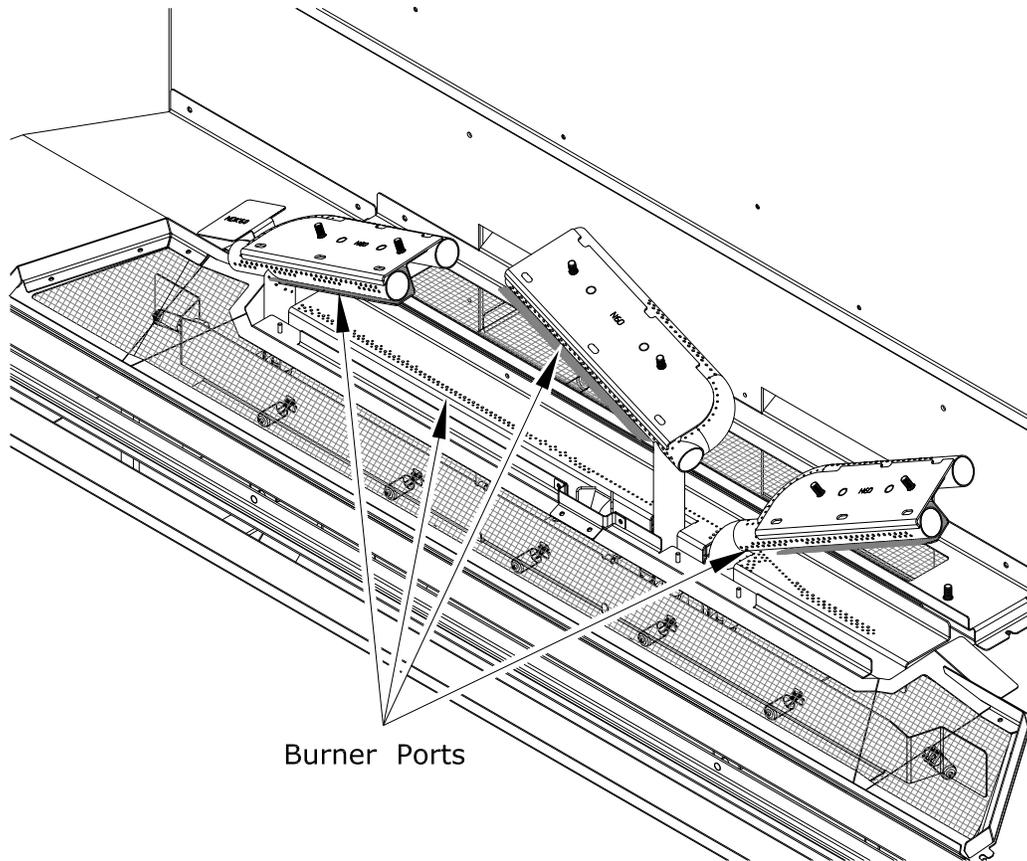

Figure 12.1 - Burner System
- Inspect and ensure the lighting of the main burner occurs within (4) seconds of the main gas valve opening. Check for faulty or incorrect wiring and correct or replace as necessary. Inspect primary air openings (burner ports) for blockage, especially near the pilot. Burner ports in burner tubes are shown in Figure 12.1.